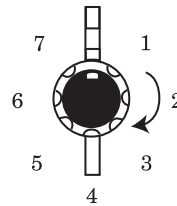

Fig. 1
1. Read the key when the key is facing you. See Figs. 1 & 2. Keep the corners sharp for accurate readings.